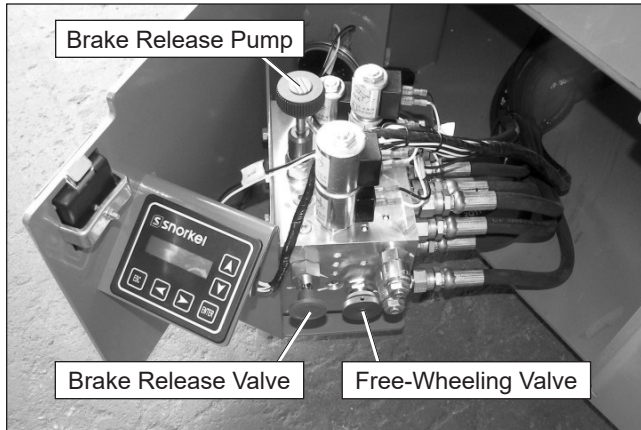

Figure 10.2 – Hydraulic Tray
1. Unlatch and swing out the control valve tray on the right side of the machine. The brake release valve and free-wheeling valve are located on the side of the hydraulic manifold. The brake release pump is on the top of the valve (refer to Figure 10.2).